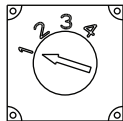

Figure 6: Regulator Voltage Selection Switch
1. Before installing regulator, verify appropriate switch setting for your application and change if necessary. See Figure 6 and Table 1 for fixed voltage set point options when used without battery sensor/harness. See Table 2 for battery chemistry-based charge profiles when used with compatible CEN battery sensor/harness. **Contact battery manufacturer or vehicle OEM for charging set point recommendations for your environment or application if necessary.**